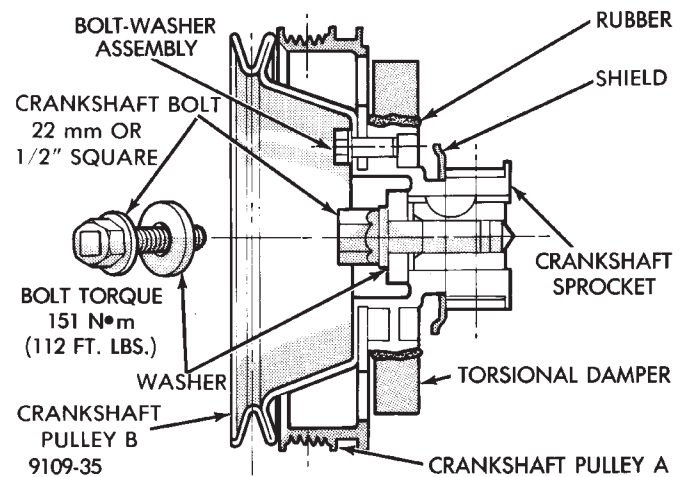

Fig. 9 Crankshaft Drive Pulleys
(7) Remove crankshaft drive pulleys and torsional damper (Fig. 9).
(8) Lower vehicle and place a jack under engine.